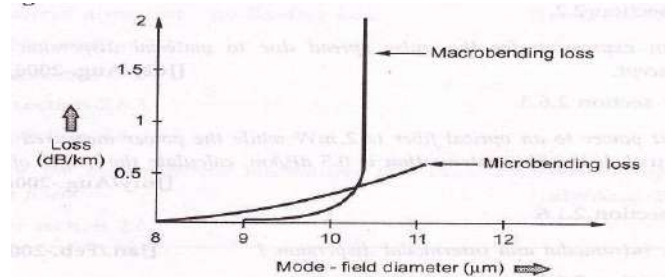

Fig. 2.9.7 Loss due to mode field diameter variation
- < The bending losses are function of mode-field diameter, smaller the mode-field diameter, the smaller the bending loss. Fig. 2.9.7 shows loss due to mode-field diameter.